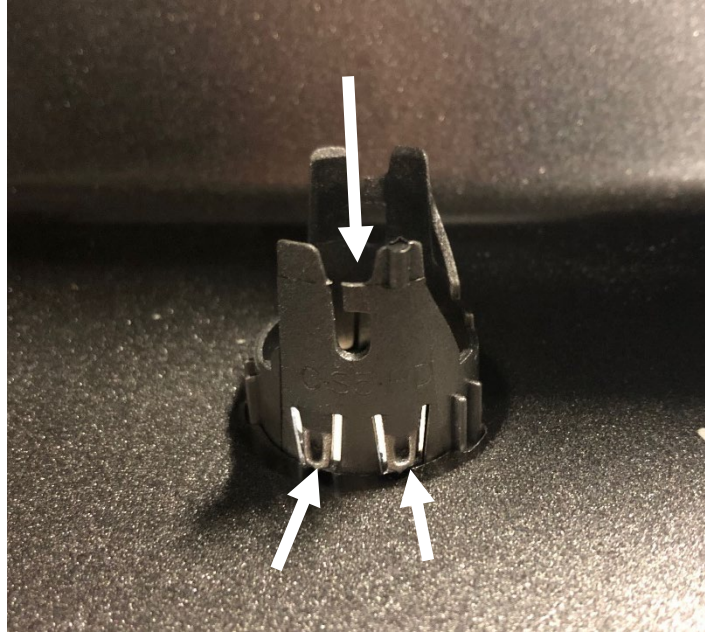

Figure 19
18. Remove the sensor housings from the bumper by pressing the retainer clips in on the sides and pushing the housing out. (Figure 19)